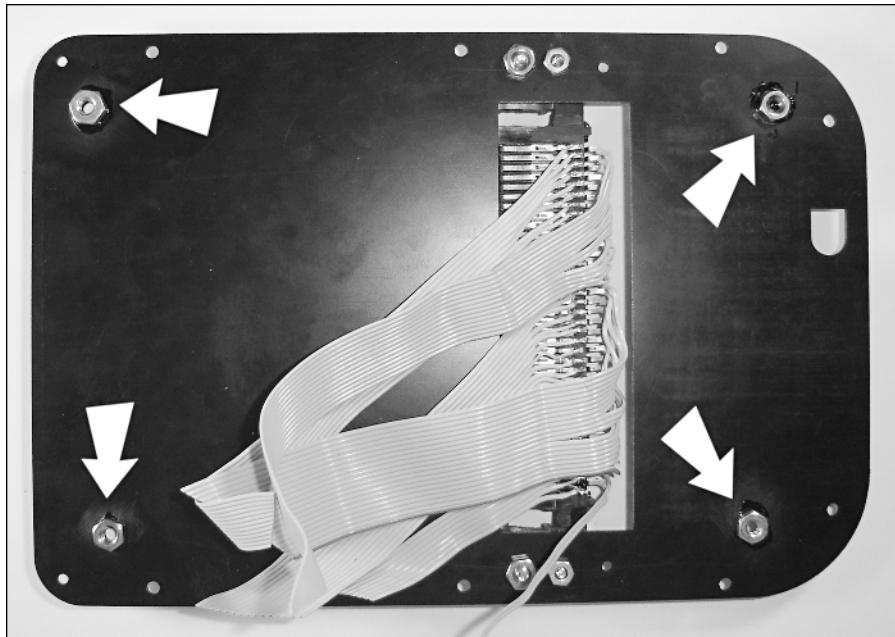

FIGURE 8-17: Where to place the NES board risers. Add a little epoxy around them for added strength.
1. Get out four size-6 nuts, and sand one side of them. Then superglue them centered over the four holes shown in Figure 8-17. (Sand near the holes as well, so that the glue sticks well.). These are now the *NES board risers*.